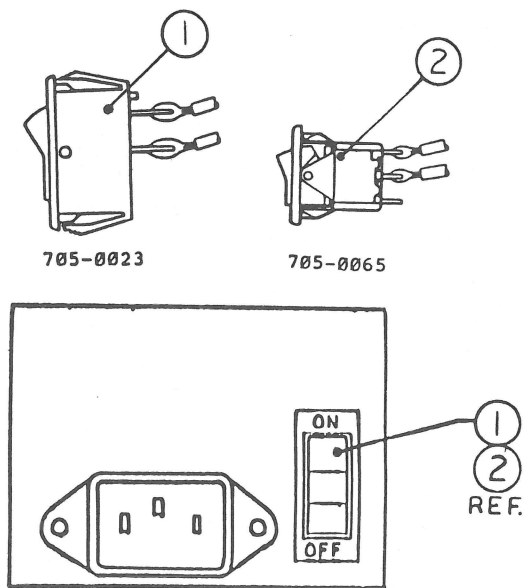

FIGURE 4
- IPL.7 Power Supply Switch (Figure 4)
□ POWER SUPPLY SWITCH (Figure 4)
Note: The items listed for the Power Supply Switch are also referenced in Figure 1 as well as Figure 4.